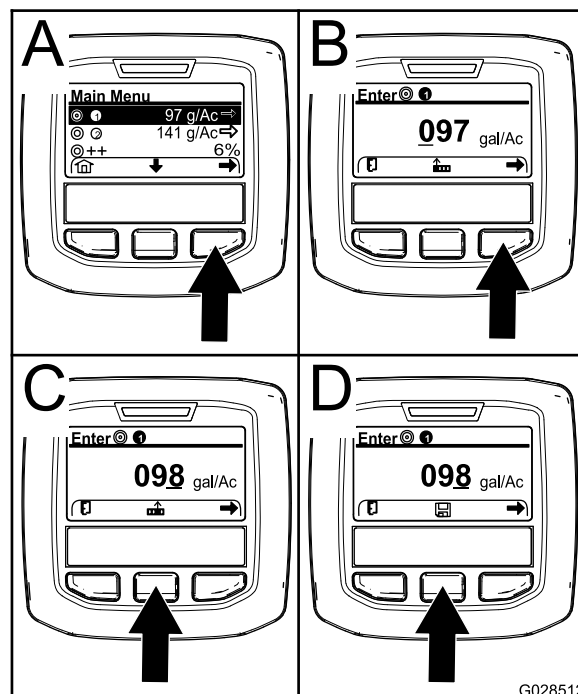

Figure 66
2. If needed, press the center selection button to highlight the application rate for sprayer program 1 (Figure 66).